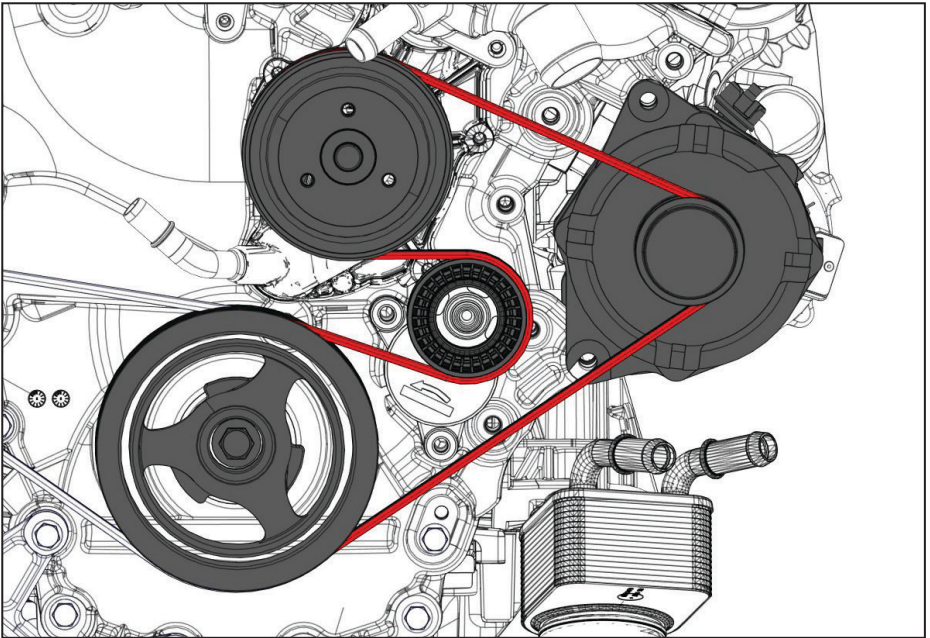

Figure 24 — 6 rib belt routing
- Reinstall and tension the OEM 6 rib belt (Figure 24).